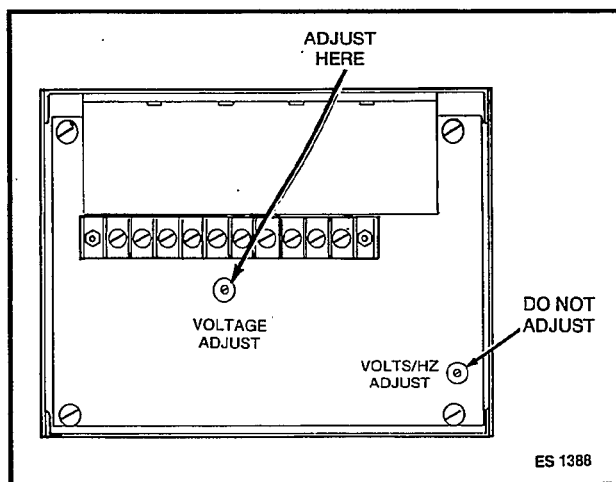

FIGURE 3-6. ELECTRONIC REGULATOR BOARD
- B. If the set has an electronic voltage regulator, adjust the voltage adjust potentiometer (Figure 3-6) while the set is running without any load connected.